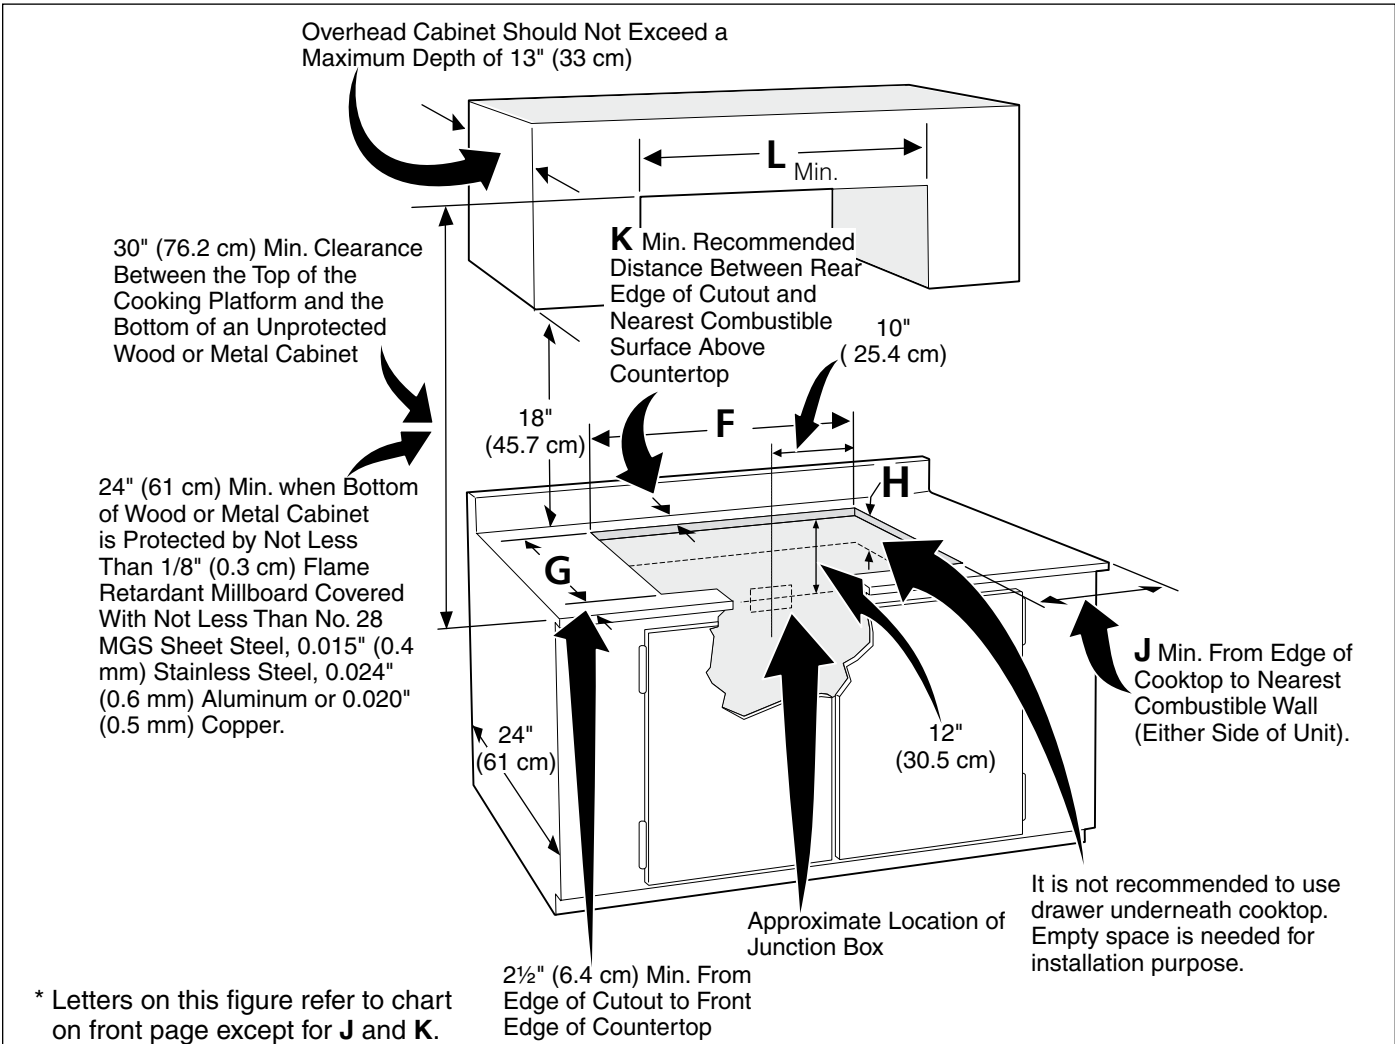

Figure 2 – COUNTERTOP CUTOUT OPENING
3. The appliance should be connected to the fused disconnect (or circuit breaker) box through flexible armored or nonmetallic sheathed cable. The flexible armored cable extending from this appliance should be connected directly to the grounded junction box. The junction box should be located as shown in Figure 2 with as much slack as possible remaining in the cable between the box and the appliance, so it can be moved if servicing is ever necessary.